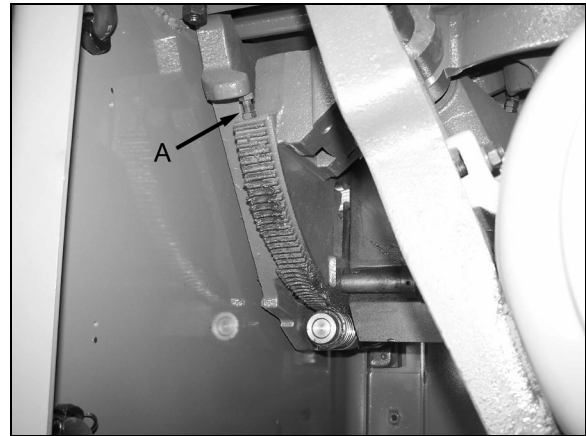
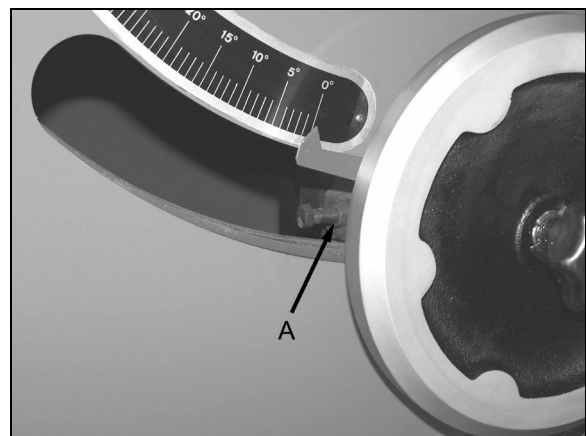

Figure 11
Figure 13
3. Loosen the jam nut and turn the screw until it hits the stop (A, Figure 11).
4. If necessary, loosen the screw (B, Figure 13) and adjust the pointer to zero on the back-up angle scale.
2. Loosen the jam nut and adjust the bolt (A, Figure 13) until it hits the stop which is similar to the stop in figure 11 but at the other end of the rack swing.